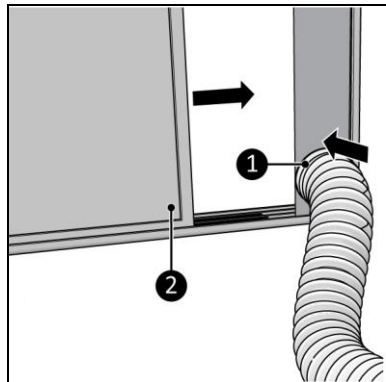

Figure 11
4. Close the window (Figure 11, pos. 2) this will hold the window kit in place.
5. Connect the window kit connector to the window kit (Figure 11, pos. 1).